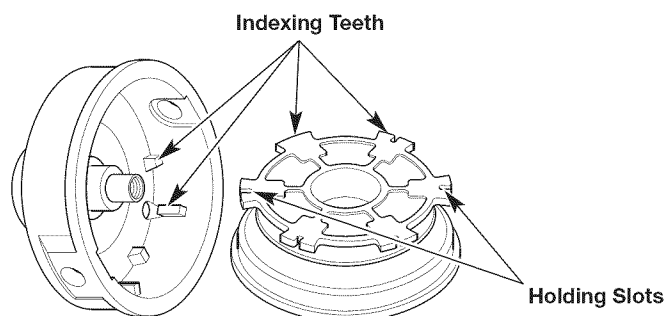

Fig. 11
6. Check the indexing teeth and holding slots for wear (Fig. 11). If necessary, remove burrs or replace the inner reel and outer spool.